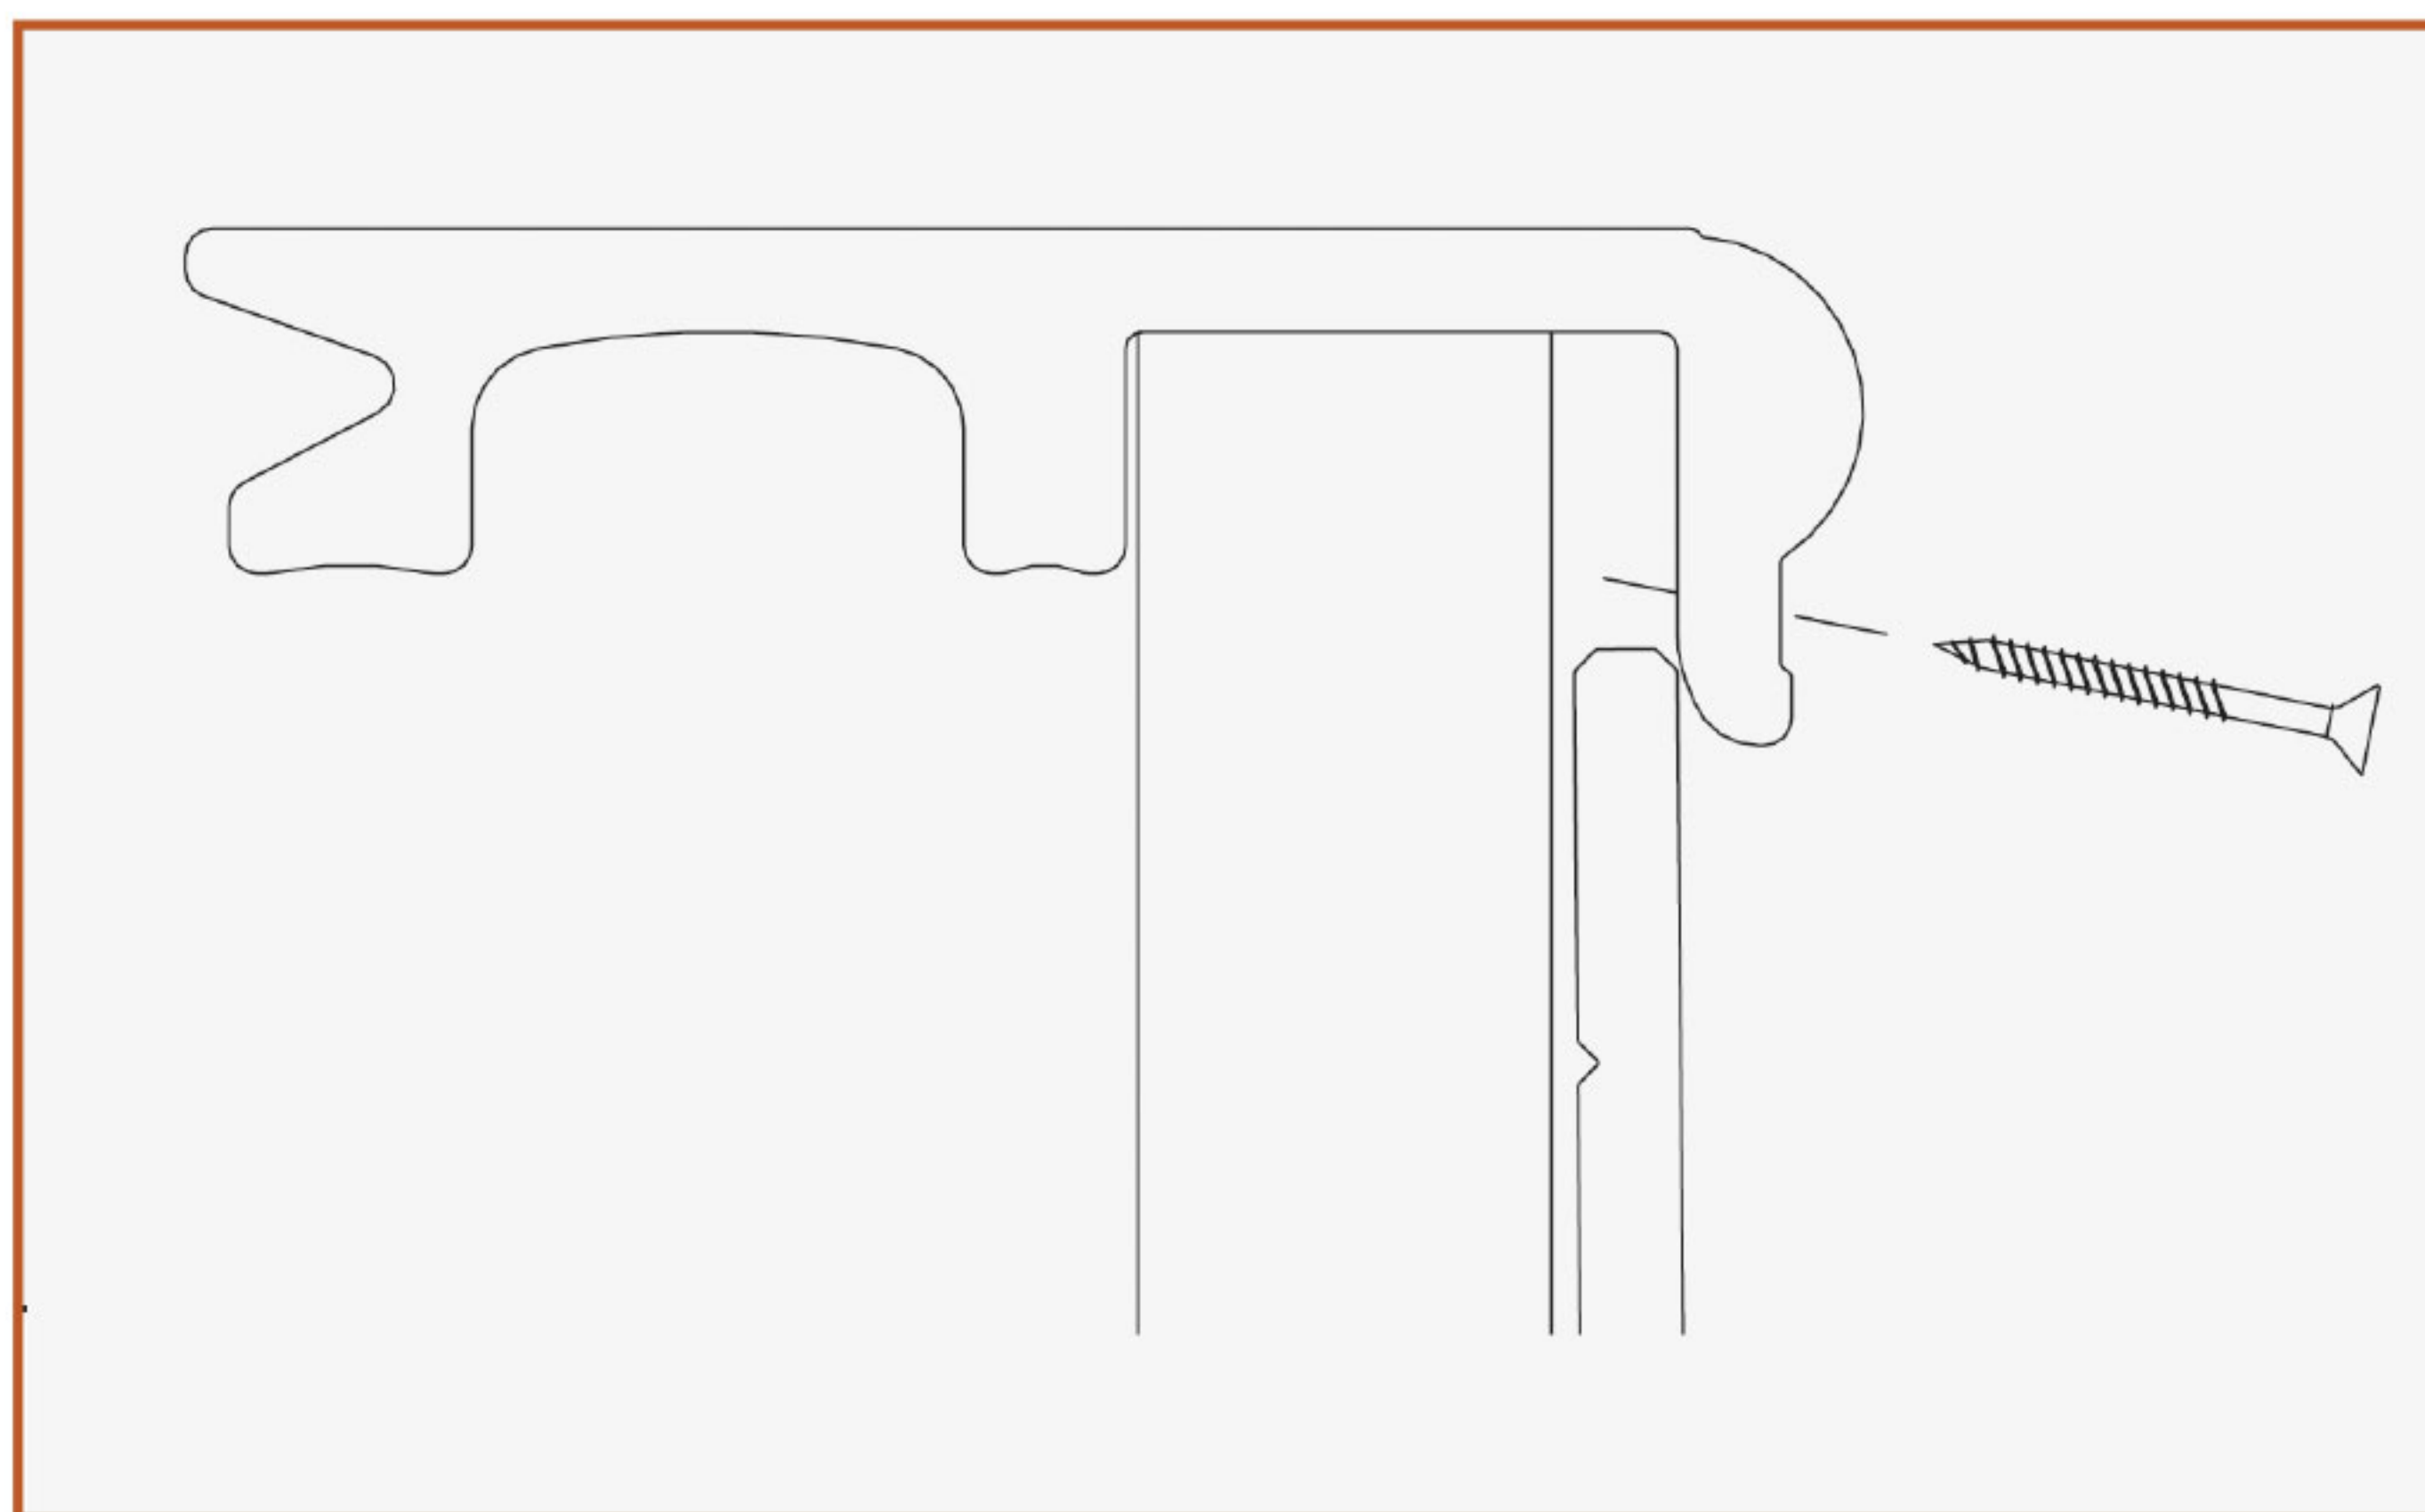

Figure 7
- Drive #8 x 2" screws into the bull nose lip. Tighten screws just until the head of the screw contacts the bull nose lip, and before the screw pulls the bull nose lip towards the lumber. **(REFER TO FIG. 7/8)**